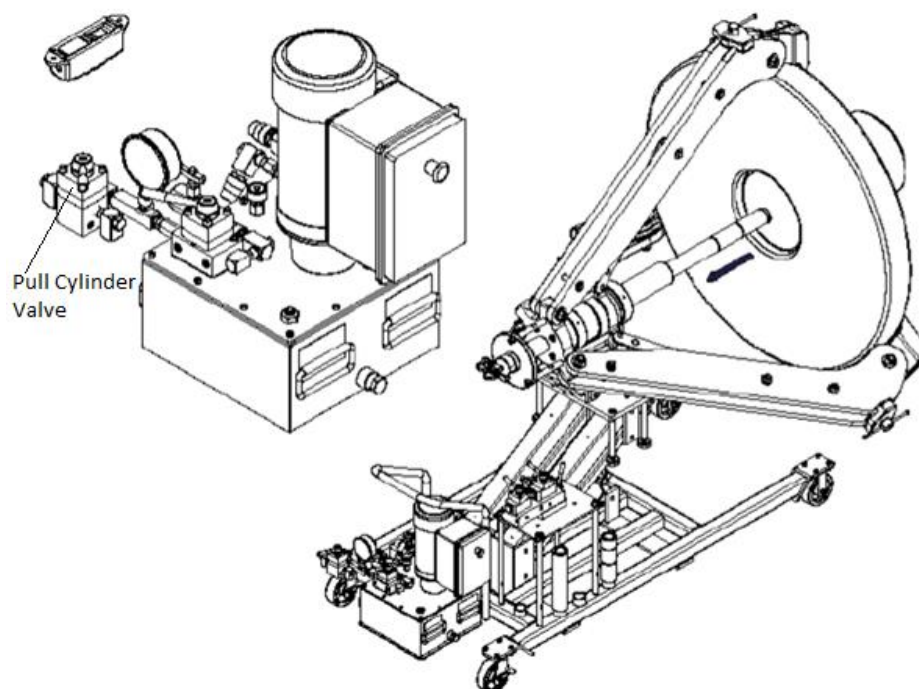

Figure 8 – Retract the Cylinder Piston
- 5.4.2 If the full stroke has been reached but the object has not been pulled completely, move the Pull Cylinder Valve to the retract position to retract the cylinder (see Figure 8). The pump does not need to be running during retraction. Another adaptor may be added while maintaining the gripping action of the jaws on the object.